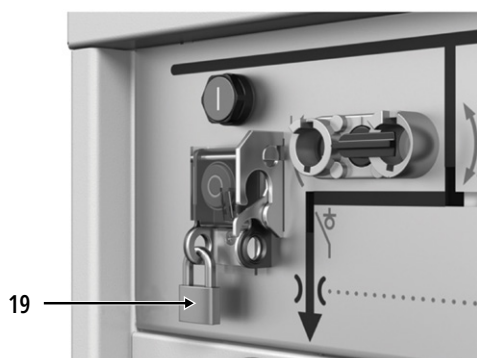

Figure 4-17: Padlock on the opening button
Hook a padlock (19) through the hole below the opening button while the push button is covered by the anti-reflex cap; see figure 4-17.